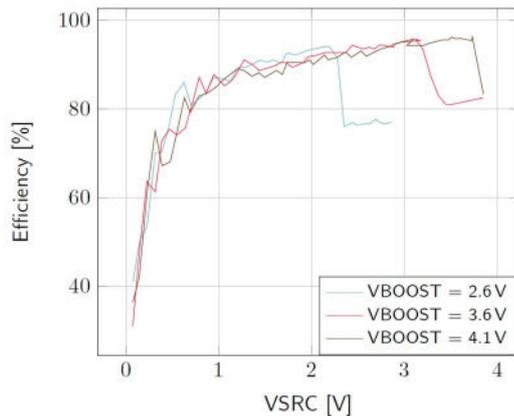

Figure 8: Boost efficiency for $I_{SRC} = 1mA$
- **VBOOST**: Measure the current and the voltage. Repeat the measurement many times to be sure to capture the current peaks. Figure 8 has been obtained by averaging over 100 measurements configured with a 100 ms integration time.